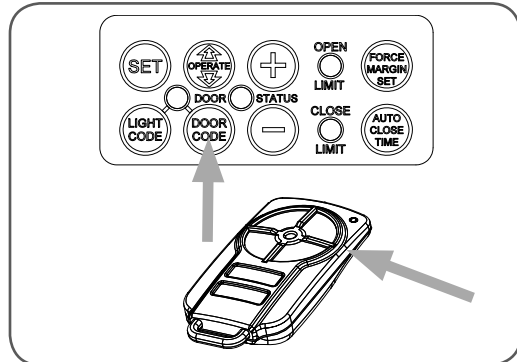

fig 33
- Briefly press the DOOR CODE button once, then press it again and hold (will beep two times on second press (**Fig. 33**)).
- Press one of the four (4) buttons on the transmitter for two (2) seconds, pause for two (2) seconds, then press the same button again for two (2) seconds.
- Press and hold the transmitter button for six (6) seconds to set Vacation Mode. The door code LED will stay lit while Vacation Mode is active.